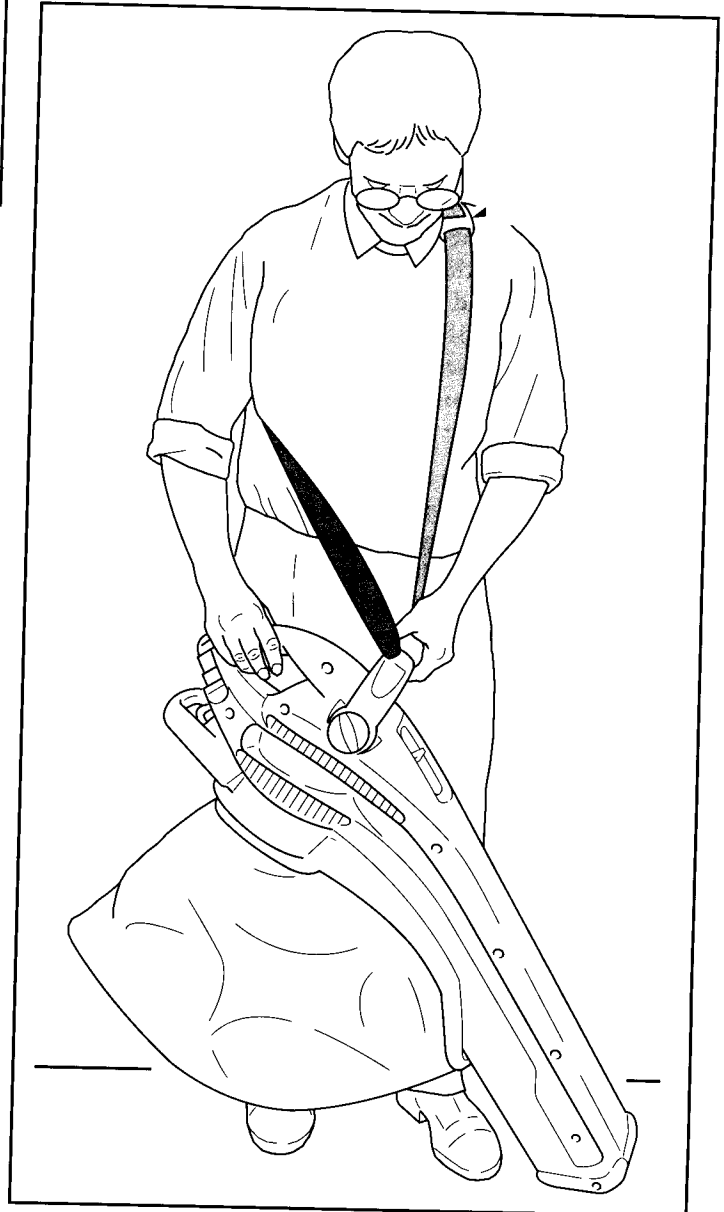

Figure 16
12. **Use the correct operating position.** Figure 16. Do not overreach or use from unstable surfaces such as ladders, trees, steep slopes, roof tops, etc. Keep firm footing and balance at all times.